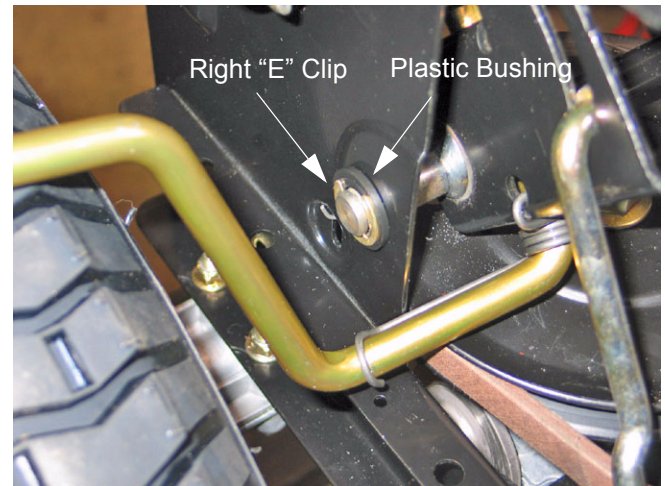

Figure 50
- 12.2. Remove E-clips from both ends of deck lift shaft. See Figure 50.